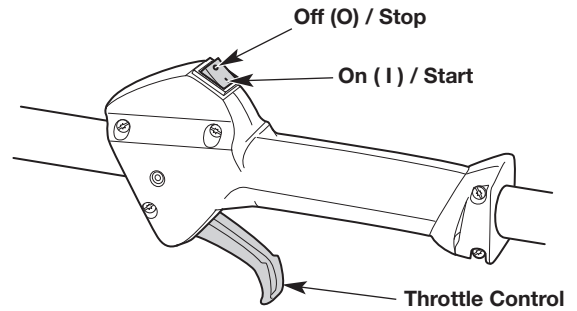
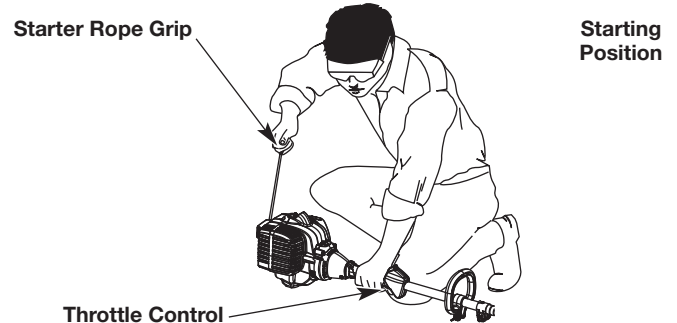

Fig. 8
Fig. 10
WARNING: Avoid accidentally starting the unit. To avoid serious injury, the operator and the unit must be in a stable position when pulling the starter rope (Fig. 10).
NOTE: There is no need to turn the unit on. The On/Off switch is in the ON (1) position at all times (Fig. 8).
5. Crouch in the starting position (Fig. 10).
6. Squeeze the throttle control (Fig. 8) and pull the starter rope with a controlled and steady motion **5 times** (Fig. 10).
2. Press and hold the On/Off switch in the OFF (0) position until the engine comes to a complete stop (Fig. 8).